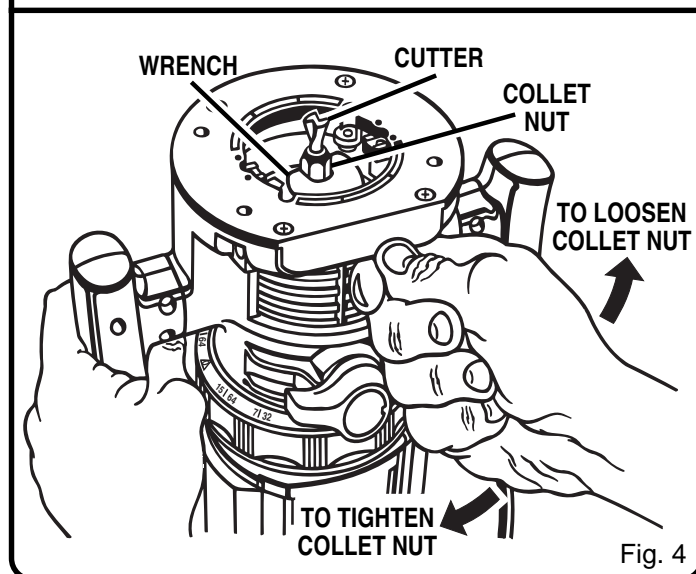

Fig. 4
- Place your router upside down on table, then turn collet nut with wrench until lock mechanism interlocks. See Figure 4.
- Remove cutters by turning collet nut counterclockwise enough to allow cutter to slip easily from collet. See Figure 4.
■ Tighten the collet nut securely by turning clockwise with the wrench provided. See *Figure 4*.